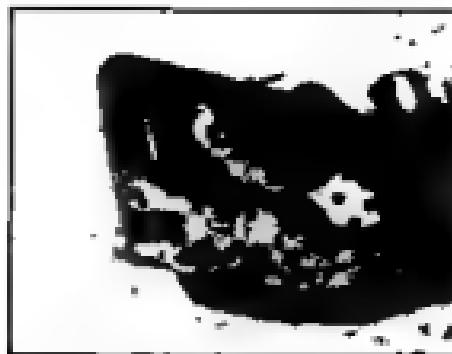

Figure 7
- 1 Take out all accessories. With a finger, press in the cover of the accessory chamber on the butt plate and take the case for accessories out of the stock. (Figure 7) Open the case and take out the accessories.